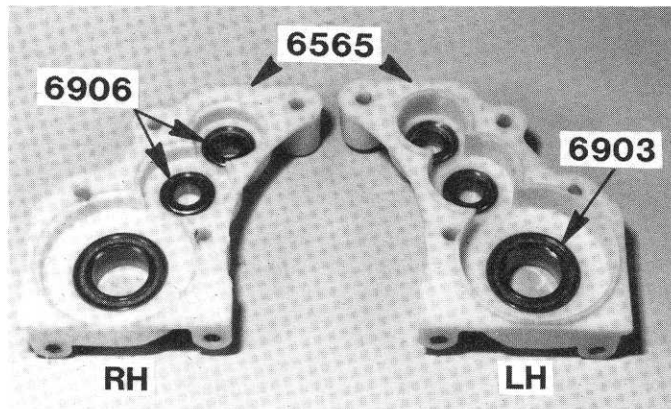

Fig. 48
□ **Fig. 48** Open Bag C and remove the #6565 left and right hand transmission cases (tranny cases), and remove any flash left from molding. Then install the #6906 upper and #6903 lower bearings.